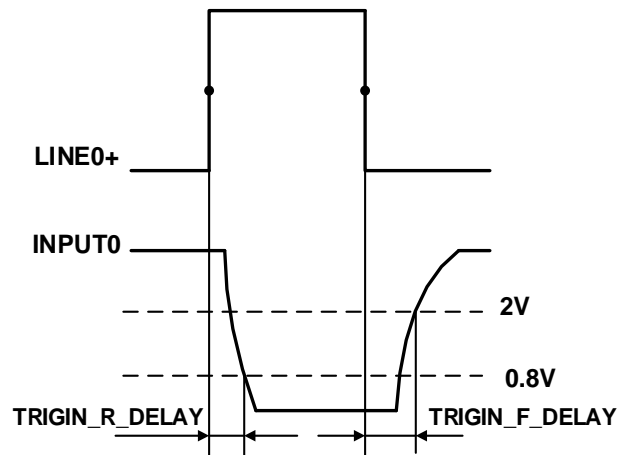

Figure 7-4 Parameter of opto-isolated input circuit
- Rising edge delay: <50 $\mu$ s (0 $^{\circ}$ C~45 $^{\circ}$ C), parameter description as shown in Figure 7-4
- Falling edge delay: <50 $\mu$ s (0 $^{\circ}$ C~45 $^{\circ}$ C), parameter description as shown in Figure 7-4
- Input rising time delay:  $<2\mu s$  ( $0^{\circ}C \sim 45^{\circ}C$ ), parameter description as shown in Figure 7-4
- Input falling time delay:  $<2\mu s$  ( $0^{\circ}C \sim 45^{\circ}C$ ), parameter description as shown in Figure 7-4